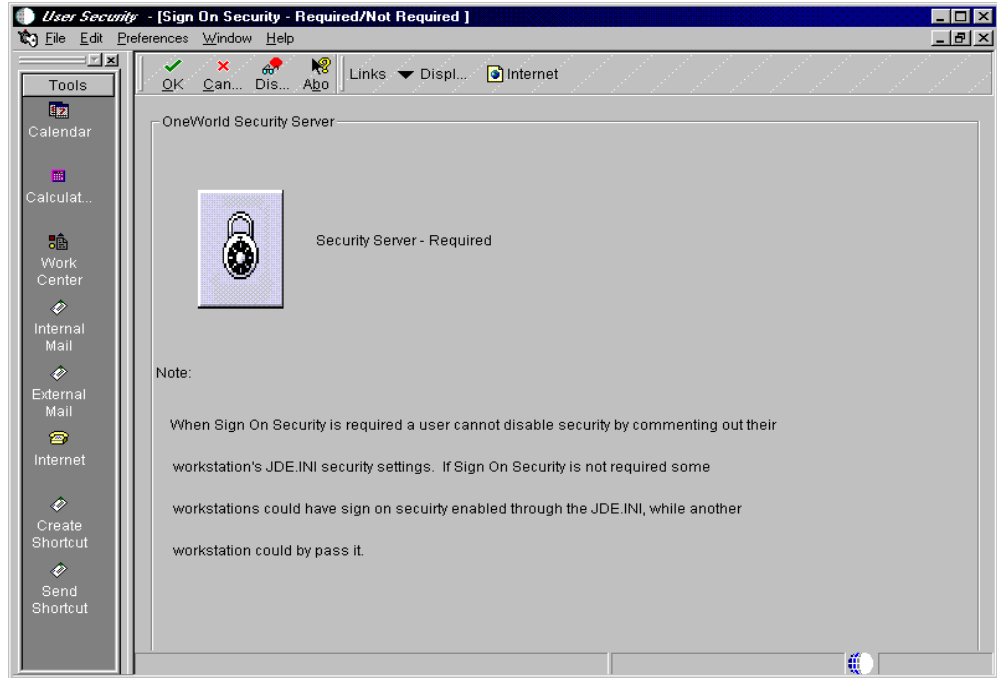

Figure 210. Sign On Security: Required/Not Required form
6. Click the **padlock** icon to change the status to Security Server - Required. Click the **OK** button to make it take effect. See Figure 210 on page 426.